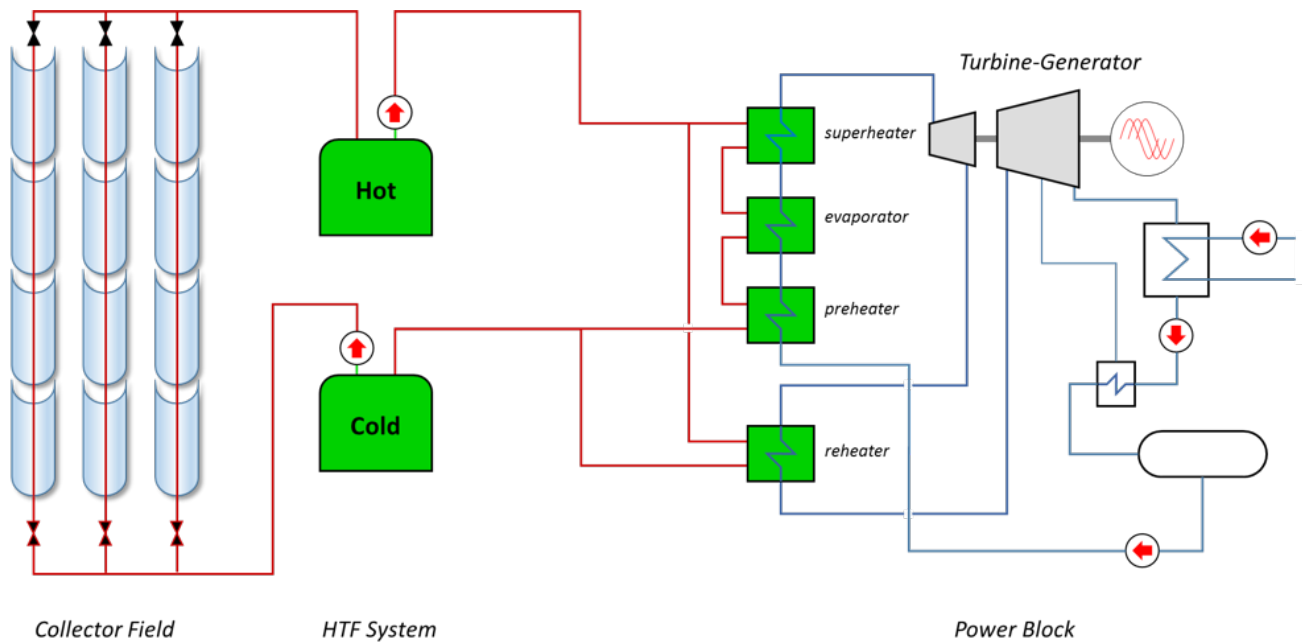

Figure 4: Parabolic trough with molten salt as the HTF
- Figure 4: Parabolic trough with molten salt as the HTF 5